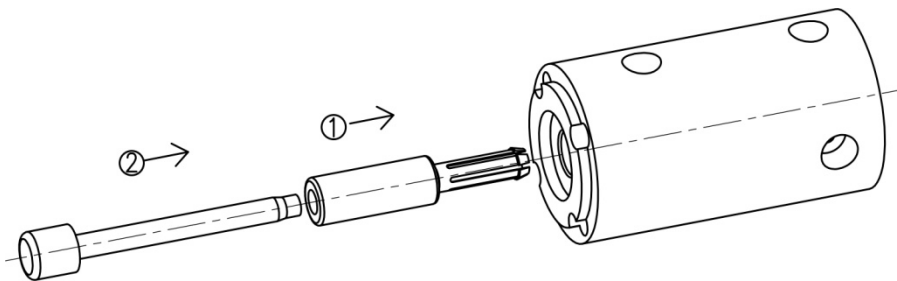
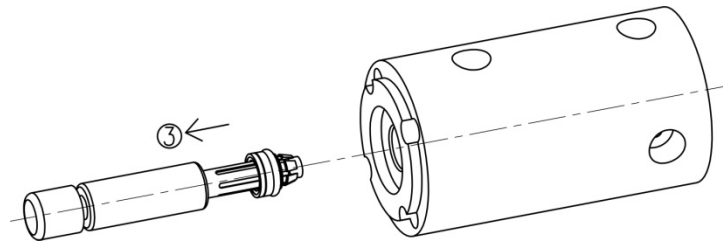

Figure 4
Figure 5
Disassembly of the seal part is indicated in the Figure 4 and Figure 5.
First, put the disassembling tool① into the pump body; After then, put the disassembling tool② into the hole of the disassembling tool① up to the end ; At last, pull the whole assembly③ out as shown in Figure 5.